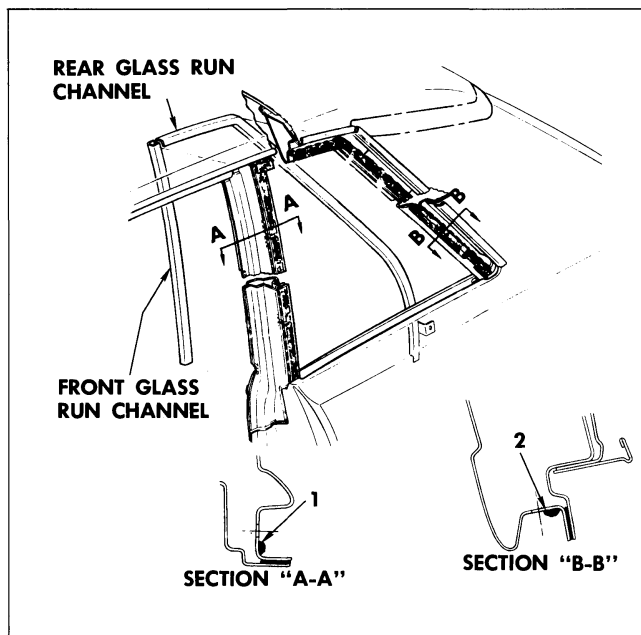

Fig. 13-5 Run Channel Sealing
3. Prior to installation, apply a bead of body caulking compound to upper body lock pillar outer rabbet outboard of clip holes to effect a watertight seal when run channel is installed (1, Fig. 13-5).
5. To install, reverse removal procedure. Prior to installation of front and rear run channels, apply a bead of body caulking compound to upper body lock pillar and side roof rail outer rabbet outboard of clip holes to effect a watertight seal when run channel is installed (2, Fig. 13-5).